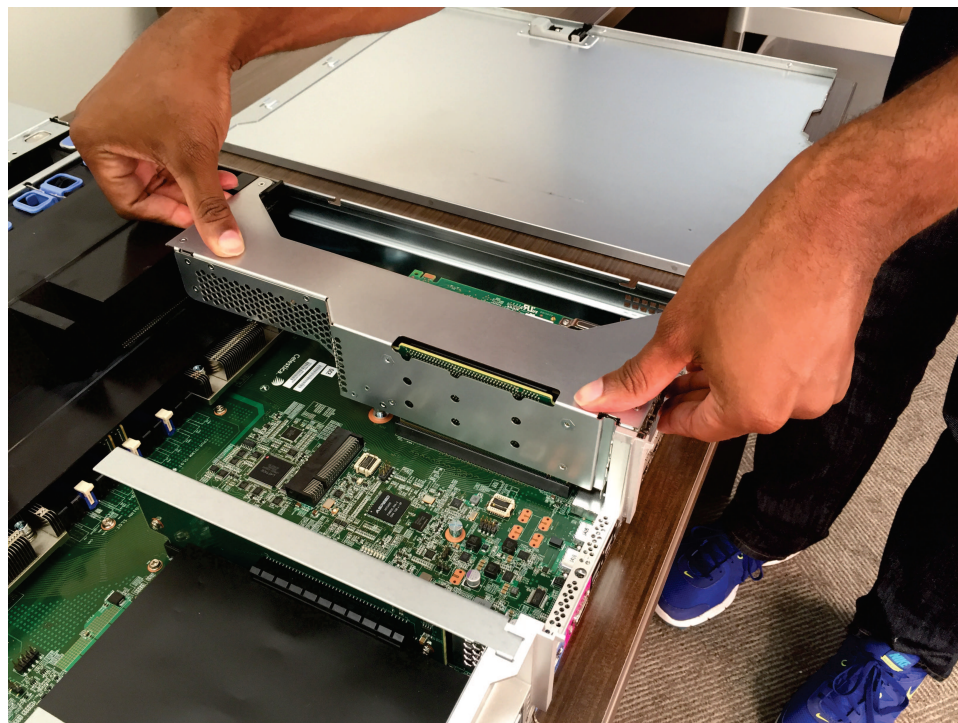

Figure 243. Replacing PCI riser card assembly 1
3. Press down on the assembly and make sure that each riser-card assembly is fully seated in the riser-card connector on the system board, as Figure 243 shows.